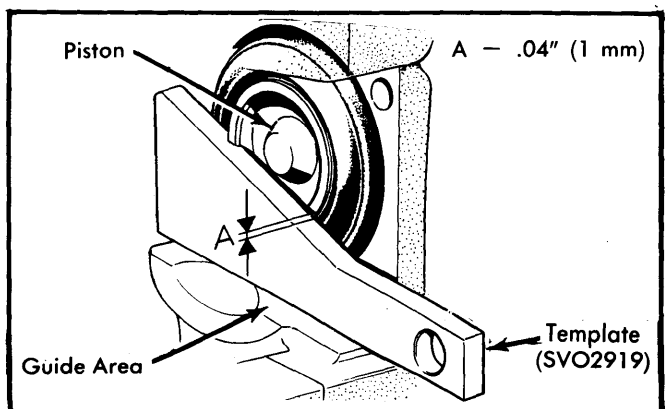

Fig. 1 Checking ATE Rear Caliper Piston Angle
**Installation (All Types)** — 1) Siphon small amount of brake fluid from master cylinder reservoir. Seat pistons in caliper bore with suitable tool (2809). On ATE rear calipers, check piston position by installing template SVO 2919 (or equivalent). Piston recess should incline 20° in relation to lower guide area on caliper. If distance from one recess to the other (Measurement A in Fig. 1) exceeds .04" (1 mm), adjust position.